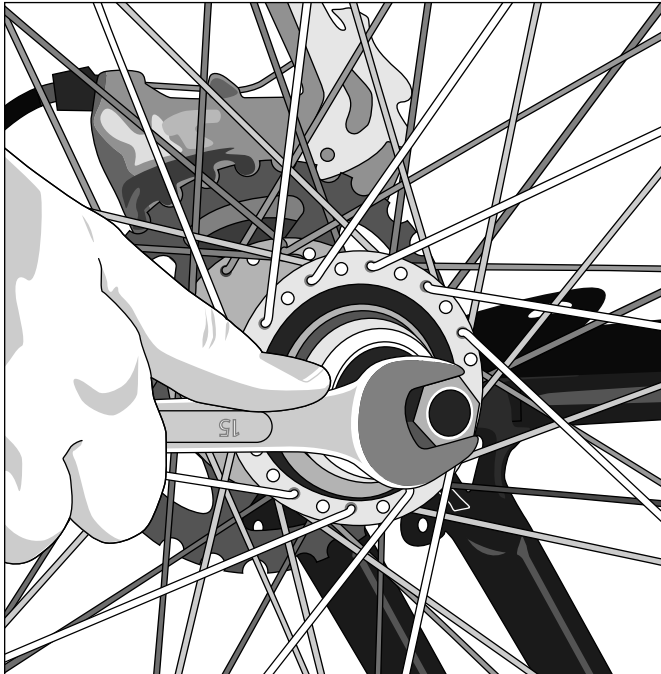

Figure 7-1:
- ✔ **If your wheel uses hub nuts or bolts**, use a wrench to loosen the axle (as shown in Figure 7-1). Start with one nut, loosen it slightly, and move to the other nut, switching back and forth until you can free the wheel.